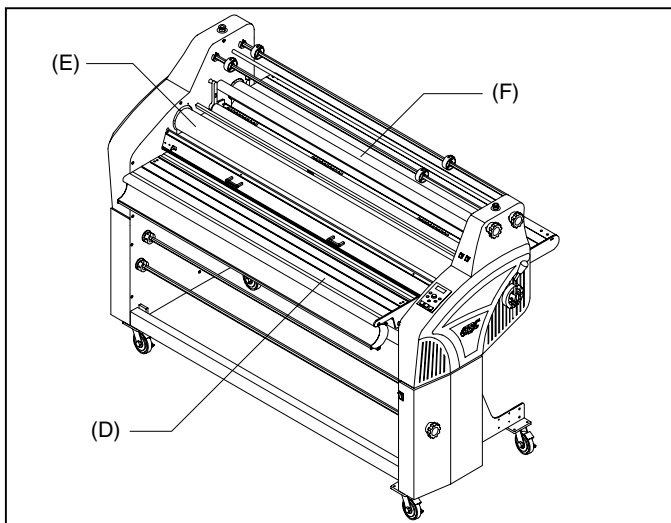

Fig. 15
**D. FEED TABLE:** (Figure 15) The Feed Table is used to position items for lamination. **The laminator will operate only when the Feed Table and Feed Table Latch are properly installed.**
**E. HEAT ROLLERS:** (Figure 15) Silicone rubber coated steel tubes heat the laminating film and compress the heated film to the items being laminated. Heat is provided by an internal heating element. The heat rollers are motor driven for ease of loading new film.
**F. PULL ROLLERS:** (Figure 15) The pull rollers, located at the back of the laminator, are motor driven. They simultaneously pull the film and improve the quality of the laminated item.